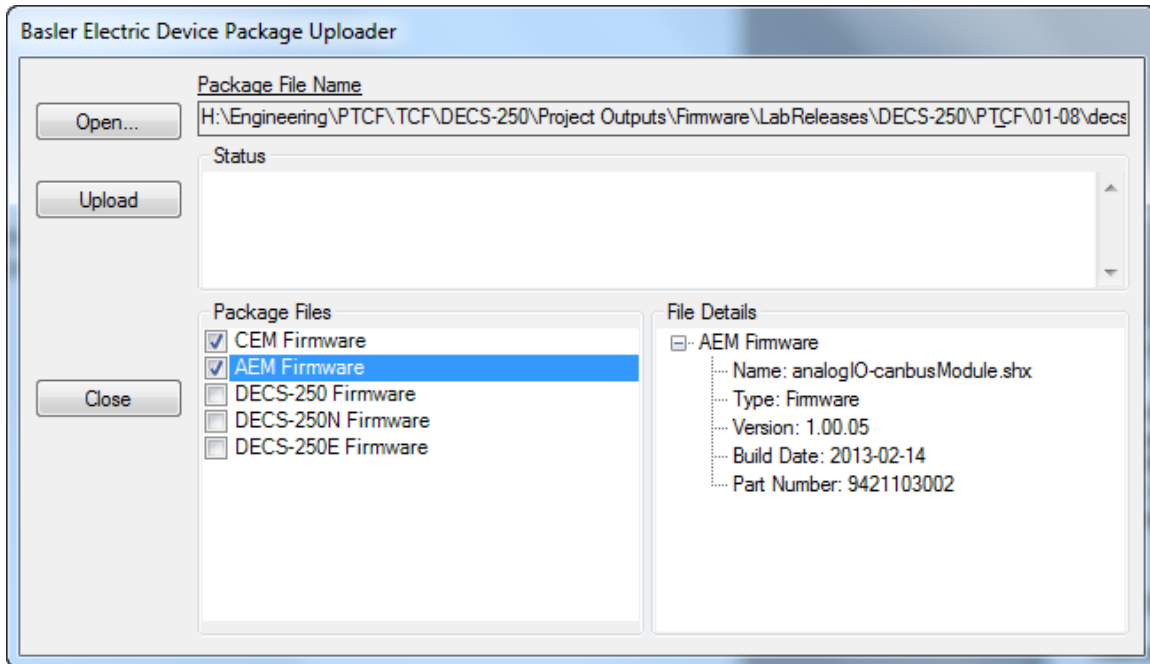

Figure 106. Basler Electric Device Package Uploader
8. When the Basler Electric Device Package Uploader screen (Figure 106) appears, click on the Open button to browse for the device package you have received from Basler Electric. The